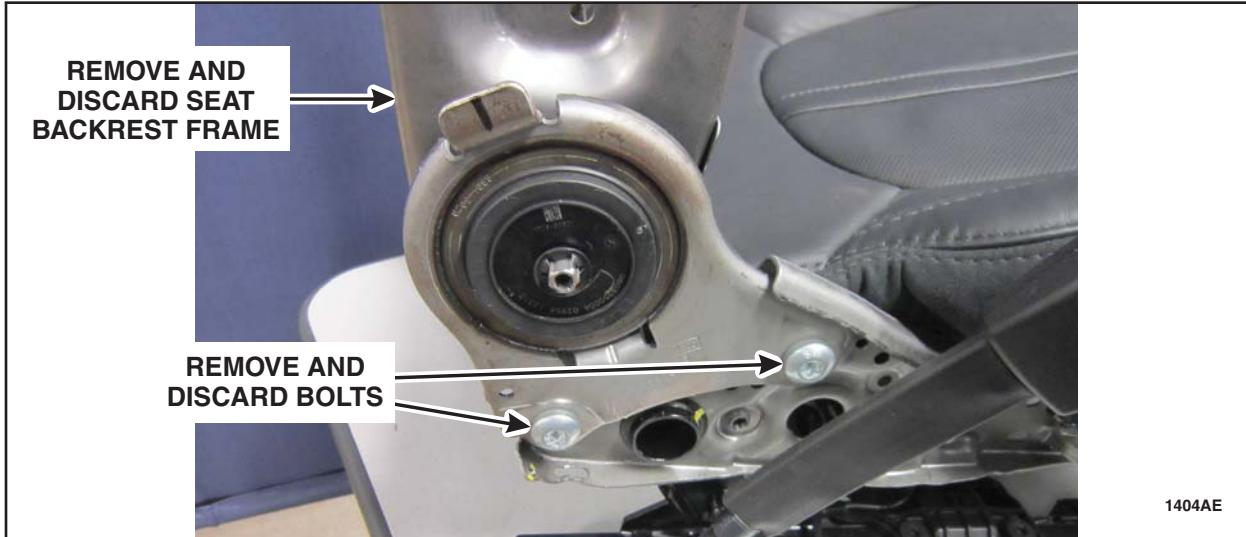

FIGURE 18
21. Remove and discard the four torx bolts and the seat backrest frame. See Figure 18.